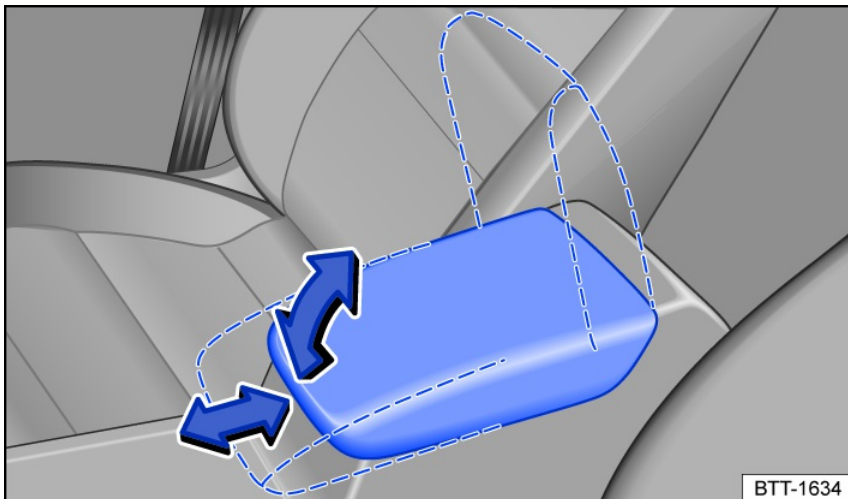

Fig. 87 Front center armrest (variant 1).
- To *lift*: Pull the center armrest up to the detents in the direction of the arrow fig. 87.
- *Fore-and-aft adjustment*: slide the center armrest in the direction of the arrow fig. 87 or rearwards.